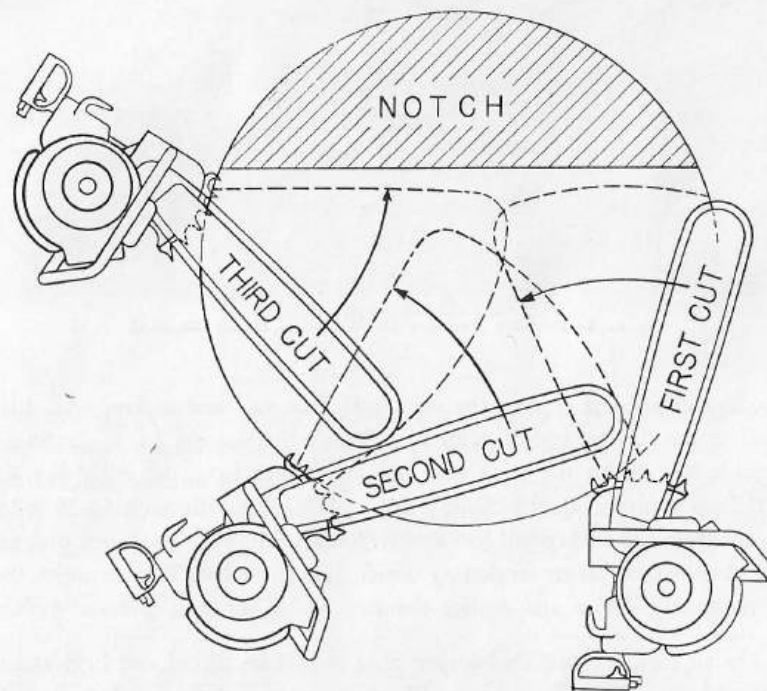

Figure 7—One-Man Felling Cut on a Large Tree
c. Felling Trees Larger Than Guide Bar (See Figure 7)
The tree should be notched for directional felling. After notching, the felling operation is clearly illustrated in Figure 7. The felling is accomplished by a series of cuts as illustrated. It is very important to make the first cut in the correct position relative to the notch. The final cut must be made with the guide bar moving toward the notch to assure proper direction of fall.